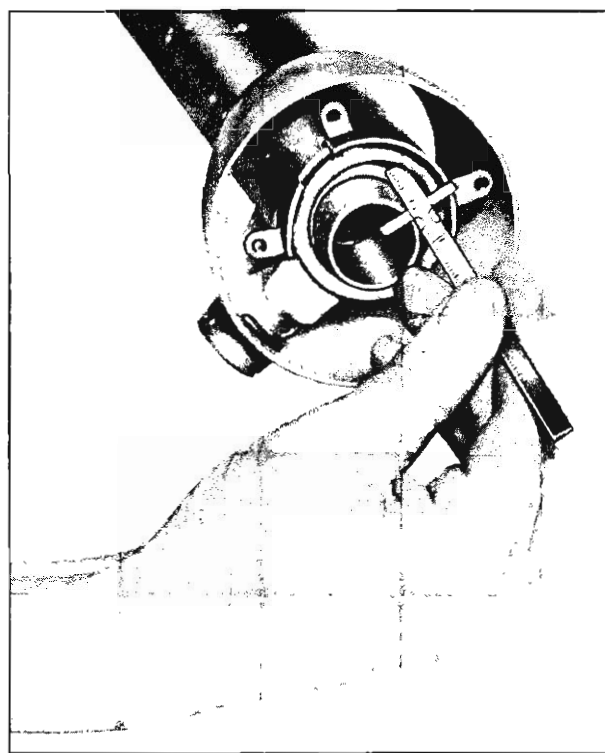

Fig. 37—Checking Upper Spacer Clearance
- machined surface of lever support housing (fig. 37).